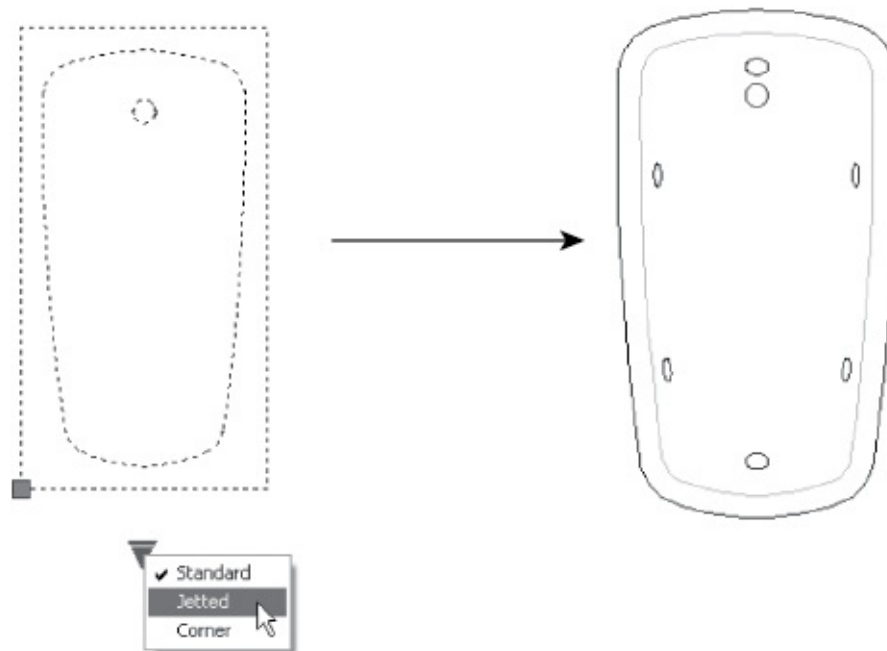

FIGURE 17.27 Using the Visibility grip to change the bathtub
5. Click the Bathtub block that you just inserted, and then click the Visibility grip (see the left image in Figure 17.27).
6. Select Jetted from the list. The jetted bathtub appears (see the right image in Figure 17.27).